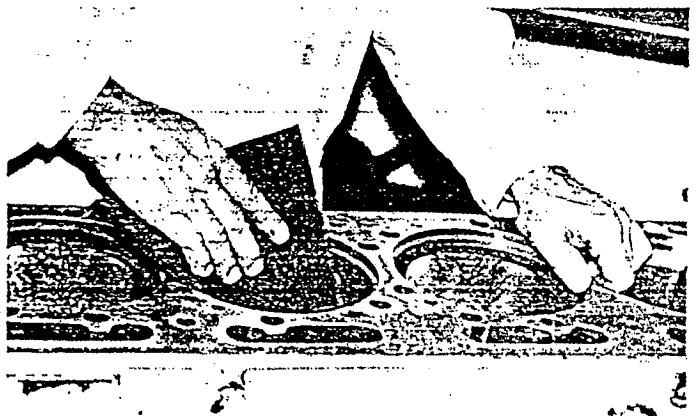

FIGURE 15
14. Clean away all shavings and deburr bore with Scotch Brite Pad PT 2901. (See Figure 15.)